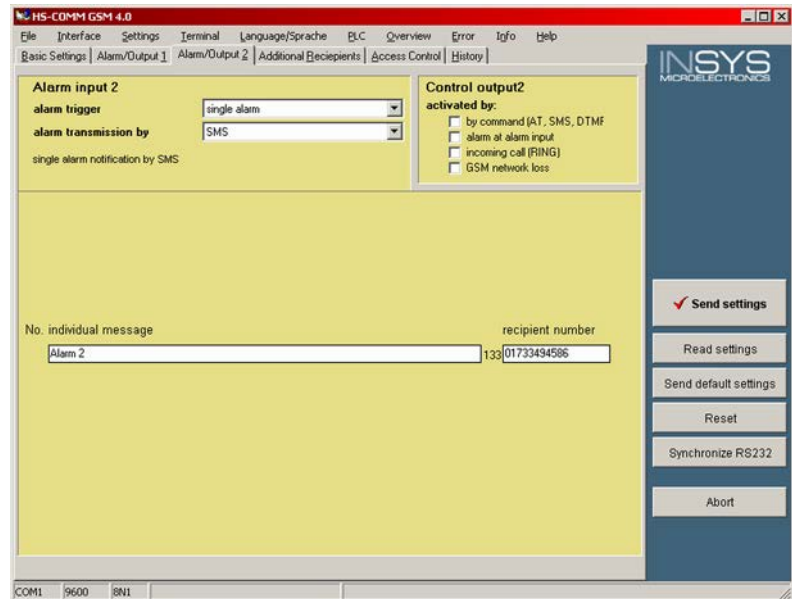

Fig. 201: GSM modem - alarm/output 2
3. ➤ Set up the modem as shown in ( Fig. 201) on the “Alarm/Output 2” tab.